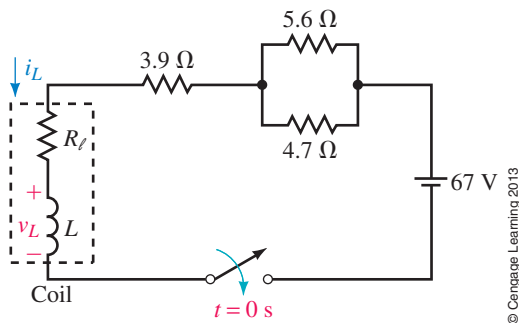

FIGURE 14–45
21. For the coil of Figure 14–45, $R_\ell = 1.7\ \Omega$ and $L = 150\ \text{mH}$. Determine coil current at $t = 18.4\ \text{ms}$.
22. Refer to Figure 14–46: